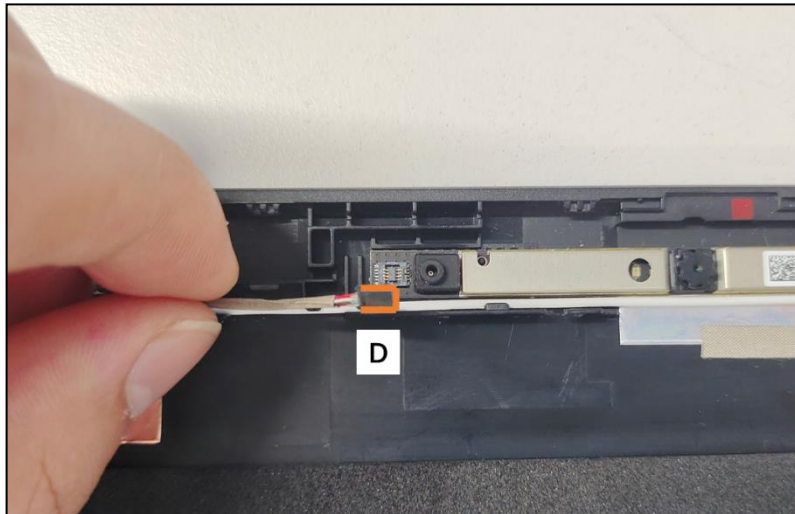

Figure 3-70. Replacing the Camera Module
3. Connect the eDP cable to the camera module connector (D) (Figure 3-70).